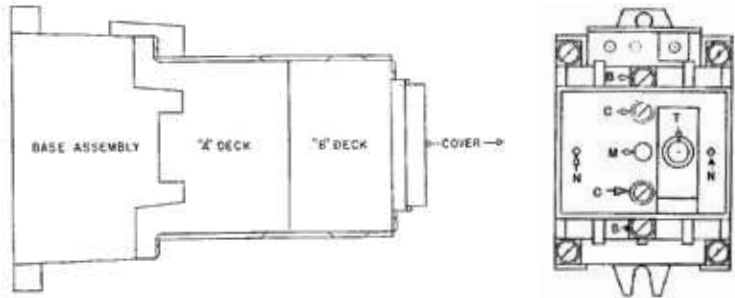
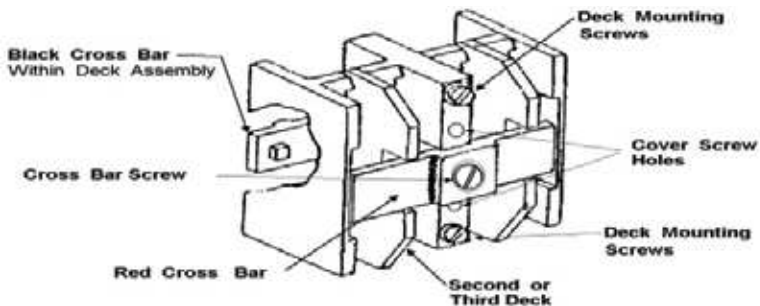

FIGURE 1. SIDE AND FRONT VIEW OF A SIX CONTACT RELAY ASSEMBLY
FIGURE 2. TOP RELAY DECK
These instructions assist the user in converting contacts located in the upper "B" deck of the relay shown in Figure 1. Note: LJ Relays with six (6) available contacts have two decks (A & B) and LJ's with ten (10) contacts have three decks (A, B & C). Read each instruction fully before beginning the work outlined in that step.
1. Using a 1/16" Allen wrench, remove and retain the two button head (4-40 X 1/4") nameplate retaining screws.(labeled N in Figure 1)
4. Remove the four (4) screws located at the corners of the case. These are on the terminal strip end of the case. Remove the relay from the case (*note: On units with the seal-in option, you must first unscrew the collar from around the reset button*)
5. Noting the orientation of the cover, use a 1/4" standard screwdriver to remove the two (2) screws (labeled C in Figure 1) which hold the cover in place. Remove cover.
6. Noting the location of the target magnet (T in Figure 1), use a 1/4" screwdriver to back out the red cross bar screw one (1) inch shown in Figure 2. Now rotate the red cross bar 90 degrees to provide access to the selected contact.
Should the user wish to convert any of the contacts in the Lower Deck (A Deck in Figure 1 on Page 10), follow the direction below:
1. Follow steps one through six (6) above for the type of mounting configuration you have.
2. Back out the screw in the center of the red operator completely (Figure 2 on page 11) and set both screw and red operator aside.
3. Carefully remove the eight (8) terminated leads from the four (4) contacts in the uppermost deck **Note:** *Write down which sets of leads go to each contact terminal.*
4. Remove the two (2) deck mounting screws in Figure 2. These screws are long and hold the different decks together.
Note: *All decks are labeled near the contact wells as Axx, Bxx, or Cxx. When assembling make sure you assemble A first, then B, then, if it is a 10 contact relay, C deck. (refer to Figure 1).*
For testing purposes, the relay can also be operated manually by inserting a small probe (e.g. #2 Phillip head screwdriver) through the center hole of the nameplate (M on Figure 1). Pushing in on this probe will move the armature, and thereby operate the contacts and target assembly (note: Not applicable on LJ32 or LJ33).